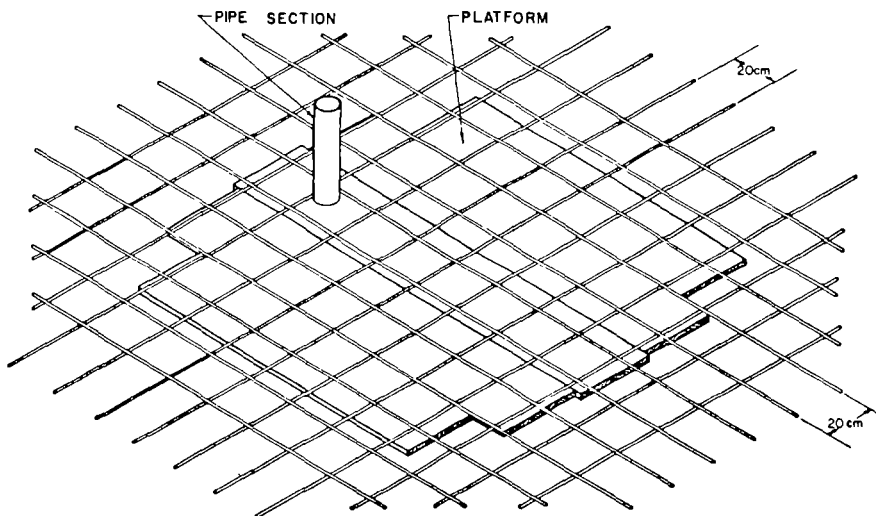

Figure 3. Reinforcement for Dug Wells
Lay out ten (10) mm diameter reinforcing bars on twenty (20) cm centers. The bars should extend fifty (50) cm beyond the edge of the well on either side. After the bars have been cut to length and placed on center, tie them together with 16-gauge tying wire. The bars are then raised 1-1/2 to 2 cm above the planking by placing small rocks under the reinforcing bar framework. The well should now look like Figure 3.